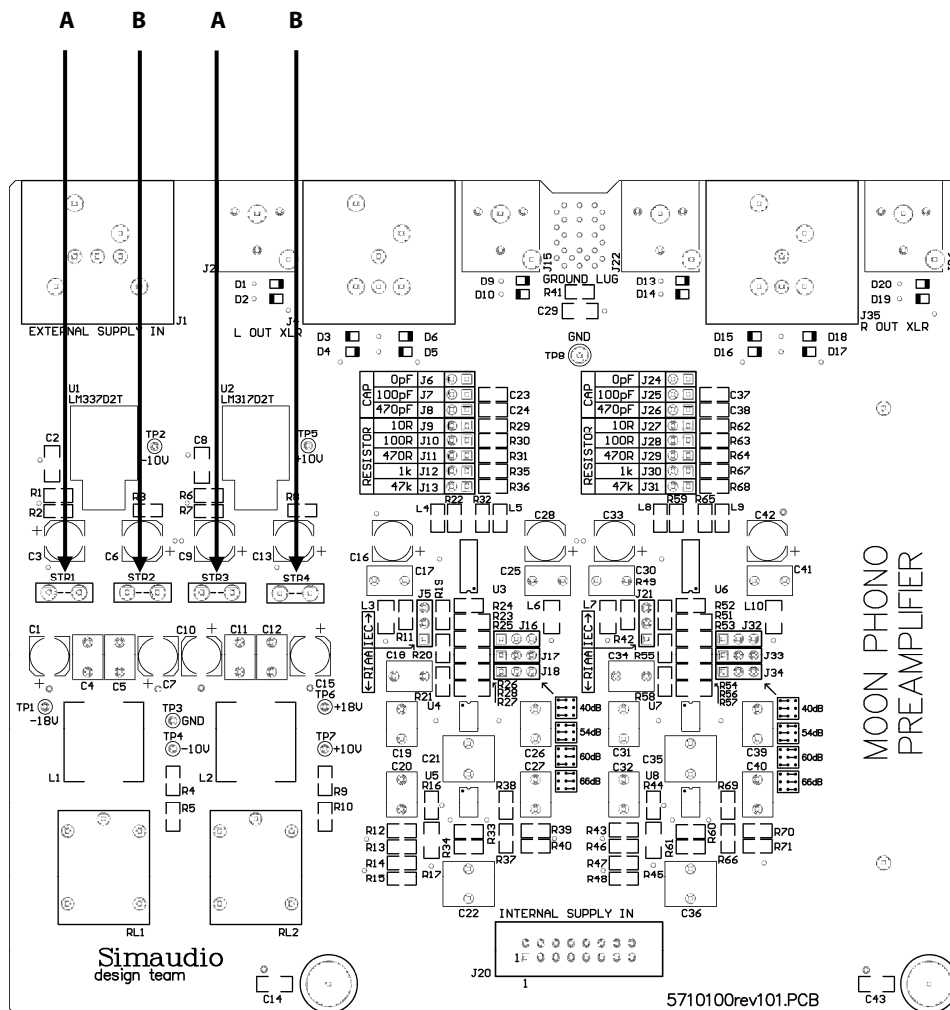

Figure 11: MOON 310LP Circuit Board layout
The **MOON 310LP Phono Preamplifier** can be operated with the optional **MOON 320S Power Supply** (purchased separately). Referring to figure 11 below, you will see an array of four (4) jumper sockets labeled STR1, STR2, STR3 and STR4. The factory default position for the 2 jumpers is in sockets STR2 and STR4 (positions B in figure 11). To properly use the **MOON 310LP** in
conjunction with the **MOON 320S**, you will need to move these 2 jumpers into sockets STR1 and STR3 (positions A in figure 11). For further details, please refer to your **MOON 320S** owner's manual. **Failure to make these adjustments may cause damage that is not covered by warranty.**
sockets STR2 and STR4 (positions B in figure 11). You should NOT move these jumpers from their factory default position.